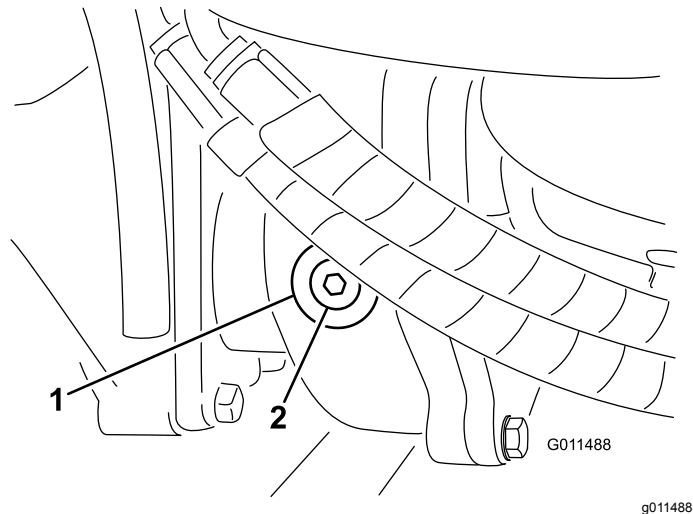

Figure 86
2. Remove the check/fill plug from the left side of the gear box and ensure that lubricant is up to the bottom of the hole (Figure 86).